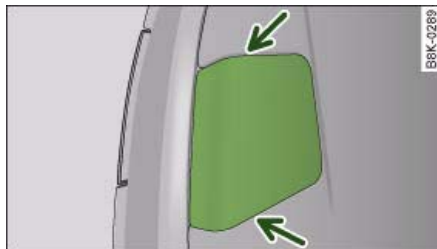

Fig. 307 Boot lid: Opening the cover in the boot lid
- Using the flat-blade side of the reversible screwdriver insert, carefully detach the cover cap ⇒ *fig. 307* -arrows-.